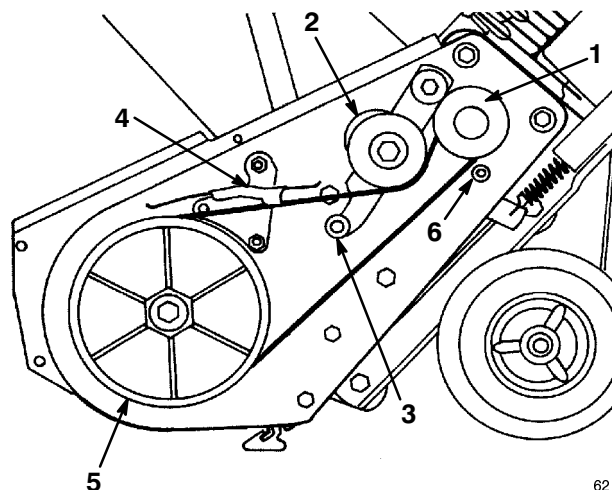

Figure 24
7. Pull up on the idler pulley and remove the drive belt from the rotor pulley, the brake arm assembly, and the engine pulley (Fig. 24).
8. Loop the new drive belt around the engine pulley, under the idler pulley, over the roller, through the brake assembly, and around the rotor pulley (Fig. 24).
IMPORTANT: The drive belt must be on top of the roller as shown in Figure 24.